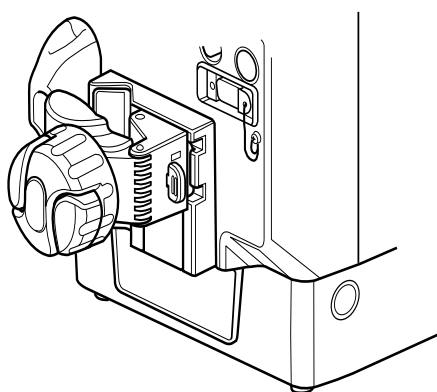

Figure 3-1 Pole (vertical) Mount
1. Check to see if the clamp bracket is positioned for pole mounting or other vertical applications as in Figure 3-1.